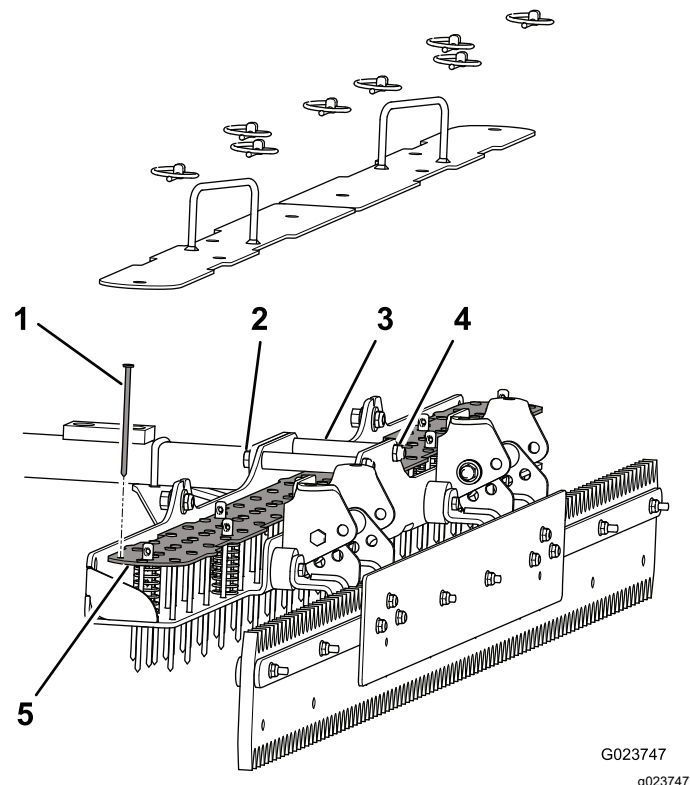

Figure 9
5. Insert the nails down through the nail plate and the bottom plate (Figure 9).